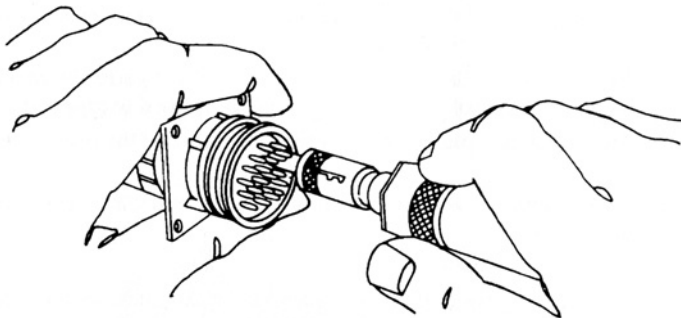

Figure 3-9. Alignment of Removal Tool
(See Figure 3-9, Page 9).
2. Place tool over the contact and insert into the cavity (see Figure 3-9). The alignment of the removal tool with the contact must be coaxial with the axis of the connector.